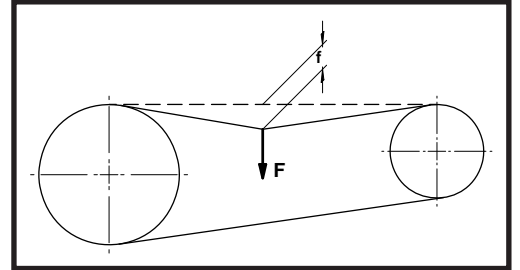
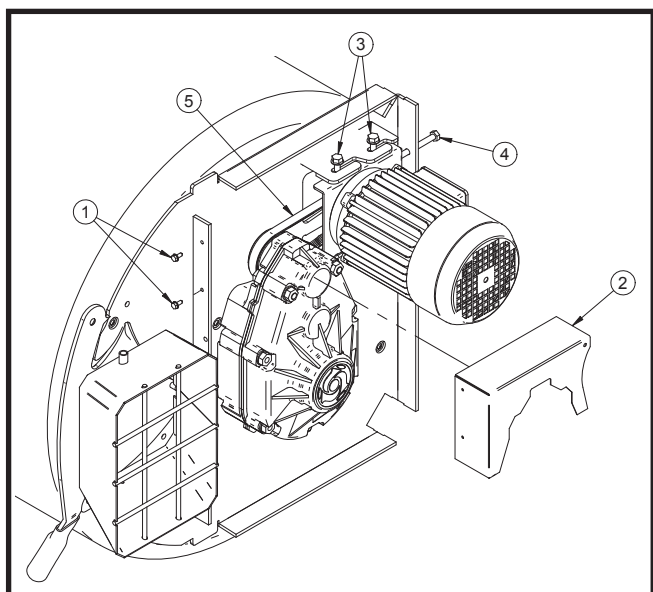

Fig.8
Fig.7
2. Remove the belt guard (ref.2, fig.7) by undoing the bolts securing it (ref.1, fig.7).
3. Loosen the 4 screws (ref.3, fig.7) securing electric motor mount and pull the belt (ref.5, fig.7) with the screw (ref.4, fig.7) if the tension is correct, applying a force of around F=1.5 kg at the centre of the belt's free section should displace it by around f=5 mm (fig.8).
6. Once the belt is correctly tensioned, tighten down the 4 bolts (ref.3, fig.7).
7. Reinstall the belt guard (ref.2, fig.7) with its bolts.
3. Slacken off the 4 bolts (ref.3, fig.7) securing the motor mount and slacken off the belts (ref.5, fig.7) with the screw (ref.4, fig.7) until they can be slipped off the motor and drive reducer pulleys.
5. Tension the belts (ref.5, fig.7) with the screw (ref.4, fig.7): if the tension is correct, applying a force of around F=0.9 kg at the centre of the belt's free section should displace it by around f=10 mm (fig.8).